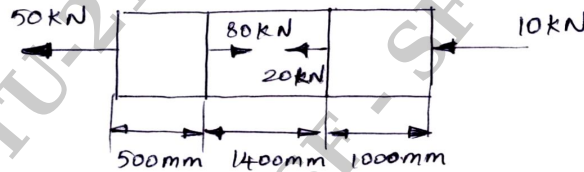

Fig.Q1(c)
- c. A bar having cross-sectional area 300 mm^2 is subjected to axial forces as shown in Fig.Q1(c). Find the total elongation of the bar. Take $E = 84 \text{ GPa}$.